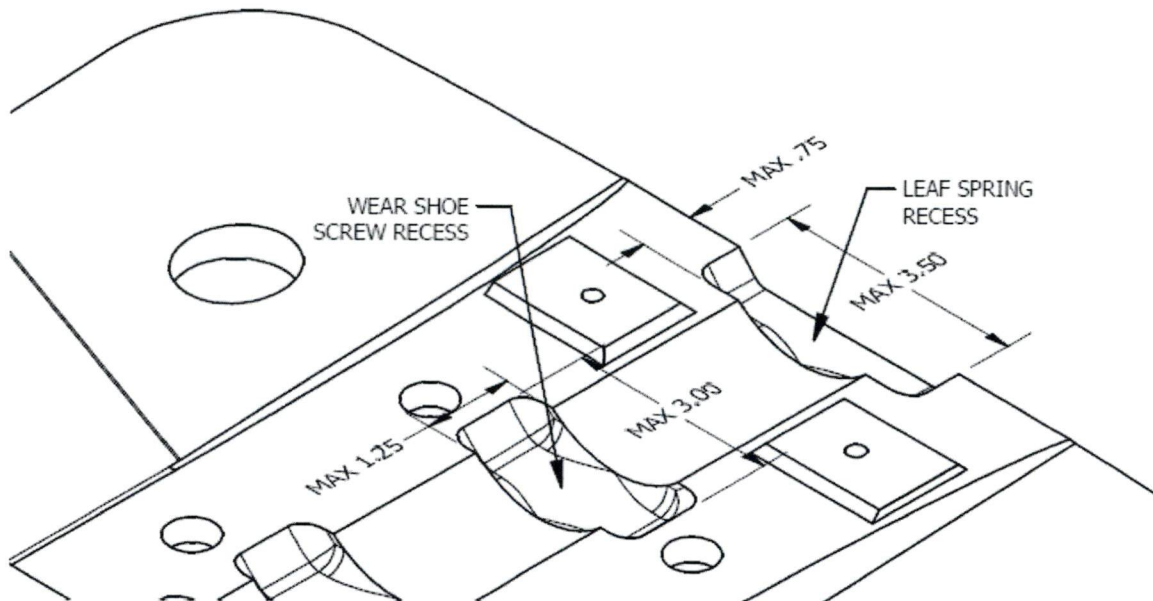

Figure 2 – Maximum Dimensions of Recesses
The Bearpaw may be trimmed/machined to clear wear shoe mounting screws and skid leaf spring provided the recesses leave at least 0.500" thickness and provided that maximum lengths and widths of Figure 2 are not exceeded.
- 3.5.4 Position the D2432F (D350-578-011/-111) or D4297-1 (D350-578-013/-113) or D2672F (D350-578-021/-121) Bearpaw with D3859-041 Wearplate on the aft end of each skidtube as shown in Figure 2.